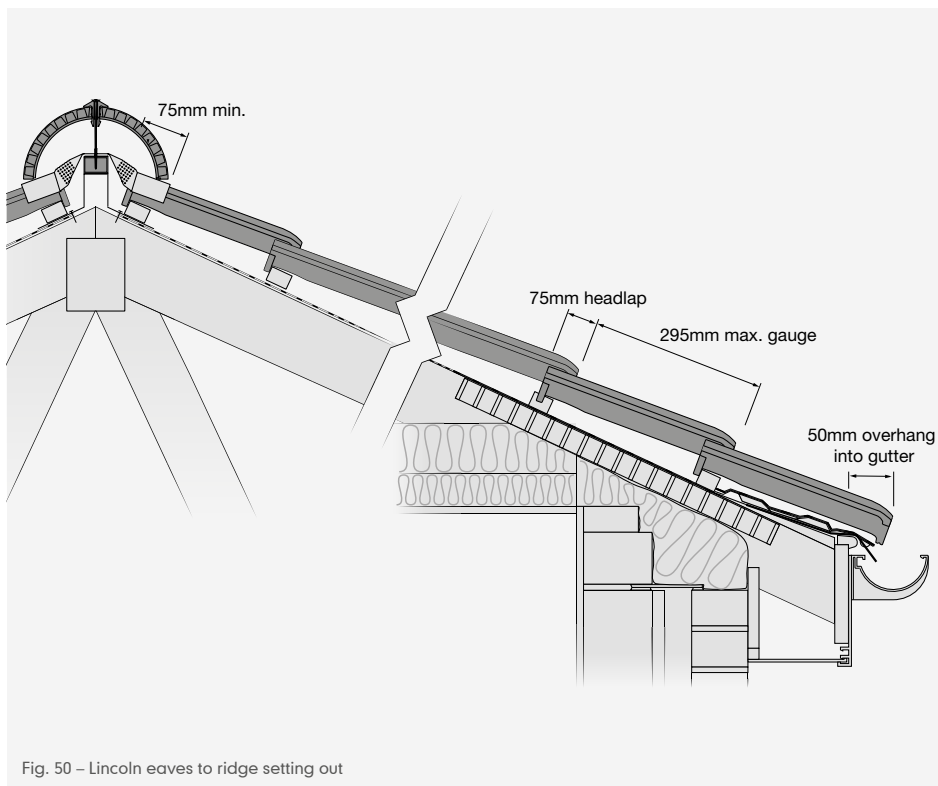

Fig. 50 – Lincoln eaves to ridge setting out
- 1 Lincoln tiles have an open gauge, which can be adjusted up to a maximum spacing of 295mm to ensure a minimum headlap of 75mm (Fig. 50). Where two roof slopes of varying pitch intersect, the batten gauge should be set to the lower or longer rafter pitch.